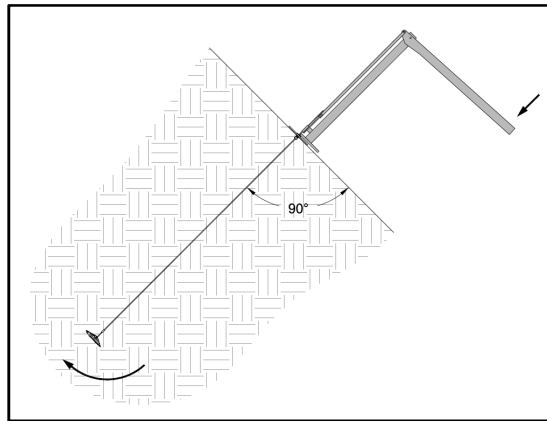

Figure 27: Use JackJaw Setting Tool to Set Anchor
6. Once the plate is close to the slope surface, place the JackJaw Setting Tool on the anchor plate and place the top of the anchor tendon into the grips, keeping the anchor tendon perpendicular to the slope surface (Figure 27). With gentle force, slowly start to press down on the JackJaw lever – towards the slope surface - causing the anchor tendon to start to move out of the ground (displace). During this step, the anchor head will turn in the ground – a process known as “anchor setting”. The change in embedment depth to set a Type B1 Anchor can be up to 6 inches and up to 8 inches for Type B2 depending on soil conditions. When the anchor is set, there will be a noticeable change in the amount of force needed to displace the anchor any further. This is a good indication that the anchor head is now perpendicular to the anchor tendon and the anchor is ready to be load-locked.